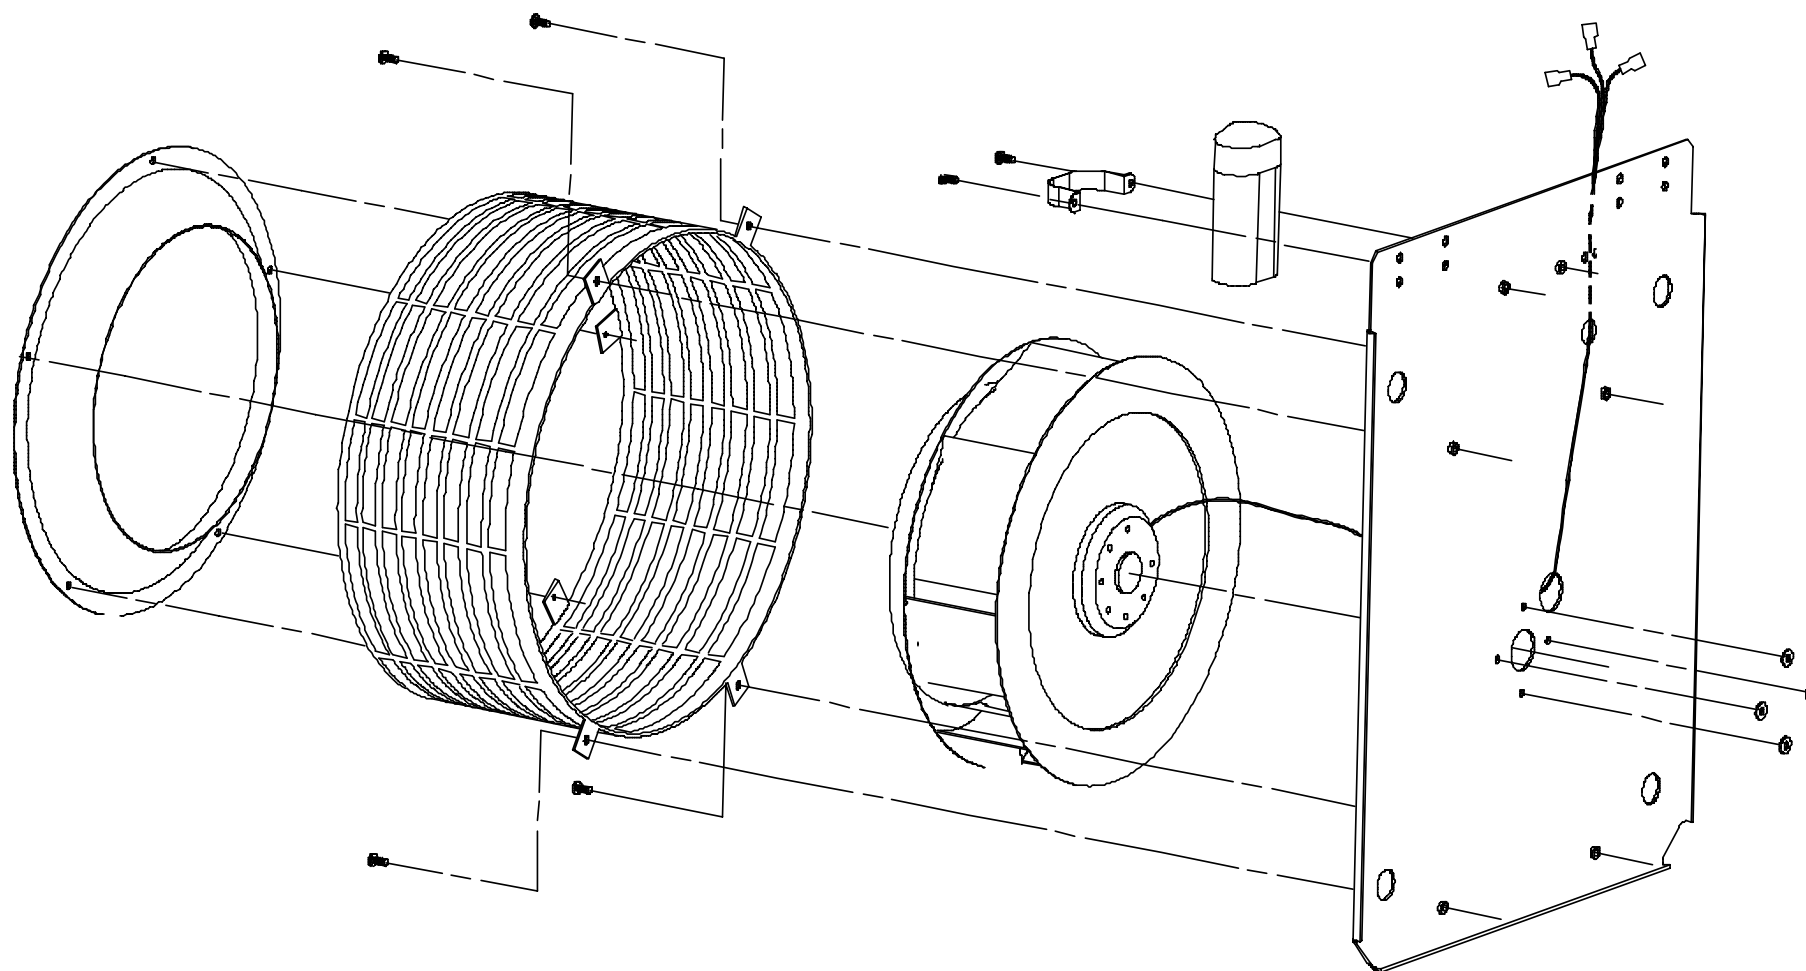

FIGURE 292 Gantry Air Blower Assembly Detail
8. Remove the four blower mounting nuts and washers that fasten the Blower to the Mounting Plate. Refer to Figure 292.